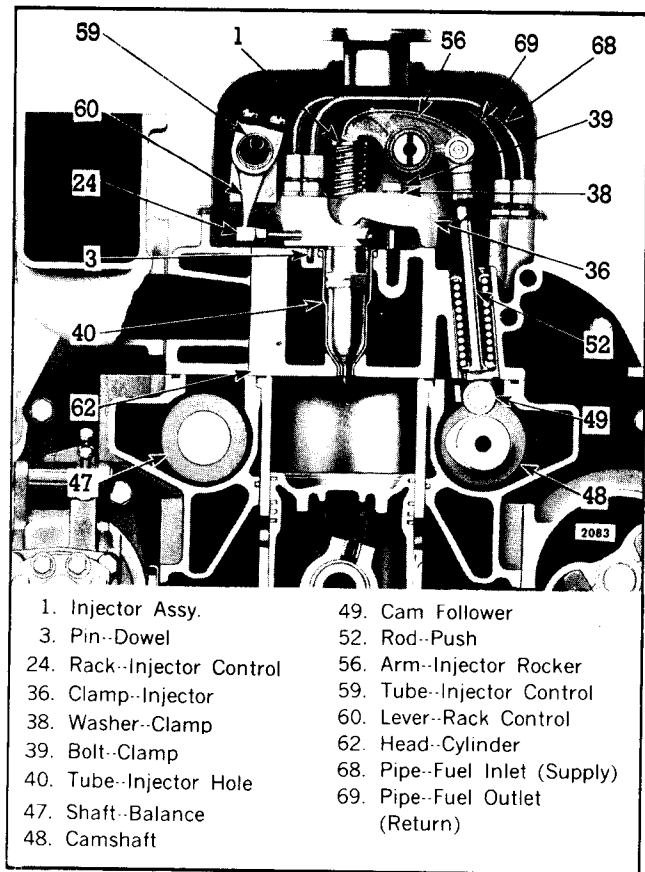

Fig. 6 - Fuel Injector Mounting
1. Refer to Fig. 6 and insert the injector into the injector tube with the dowel in the injector body registering with the locating hole in the cylinder head.
The motion of the injector rocker arm is transmitted to the plunger by the follower which bears against the follower spring (Fig. 6). In addition to the reciprocating motion, the plunger can be rotated, during operation, around its axis by the gear which meshes with the control rack. For metering the fuel, an upper helix and a lower helix are machined in the lower part of the plunger. The relation of the helices to the two ports changes with the rotation of the plunger.
- 2. Remove the fuel pipes from both the injector and the fuel connectors (Fig. 6).